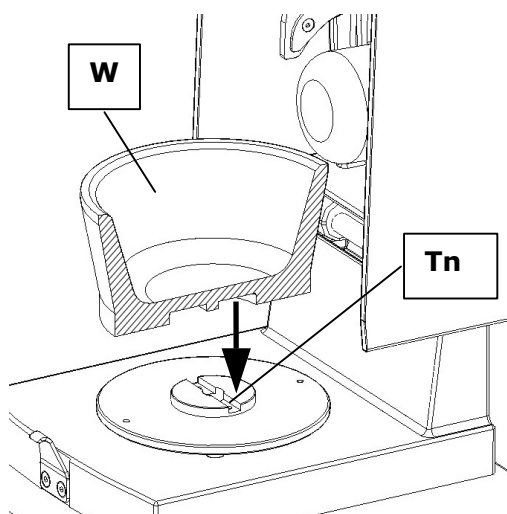

Fig. 3
- Place a new mortar in position and lock this in the groove of the plate **Tn** **Fig.3**